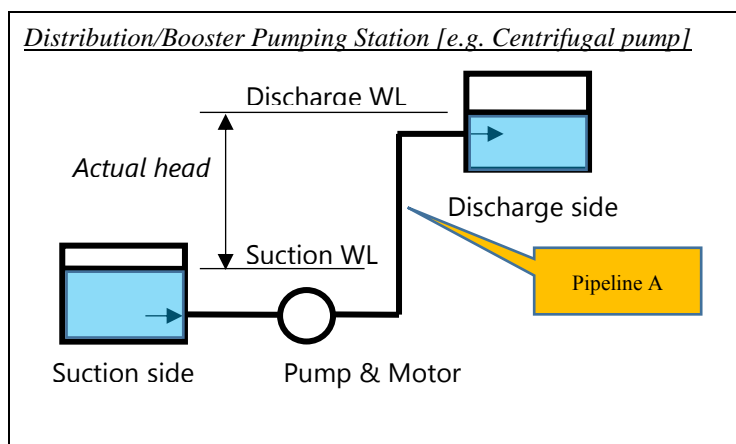

Fig 2 Actual head examination
**When site condition for booster pump station is shown as below, how much total head is required for the pump(Fig 2).**